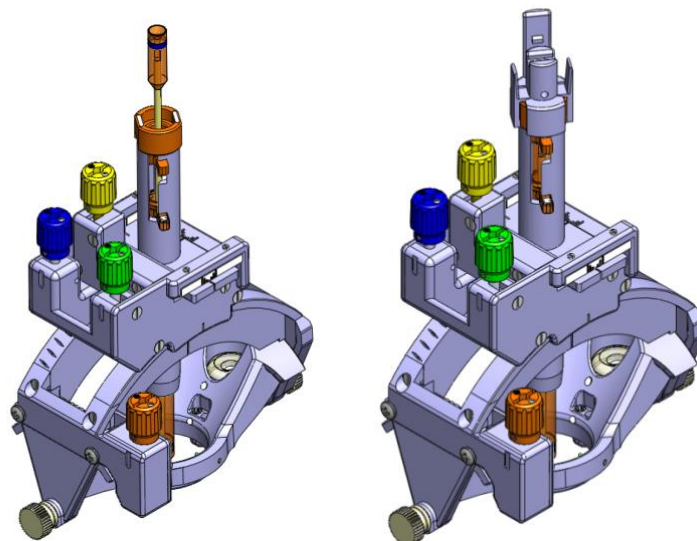

Figure 26: Assembly after Insertion.
- 3.2 Insert and snap lock the Dock in place. **See Figure 26.**